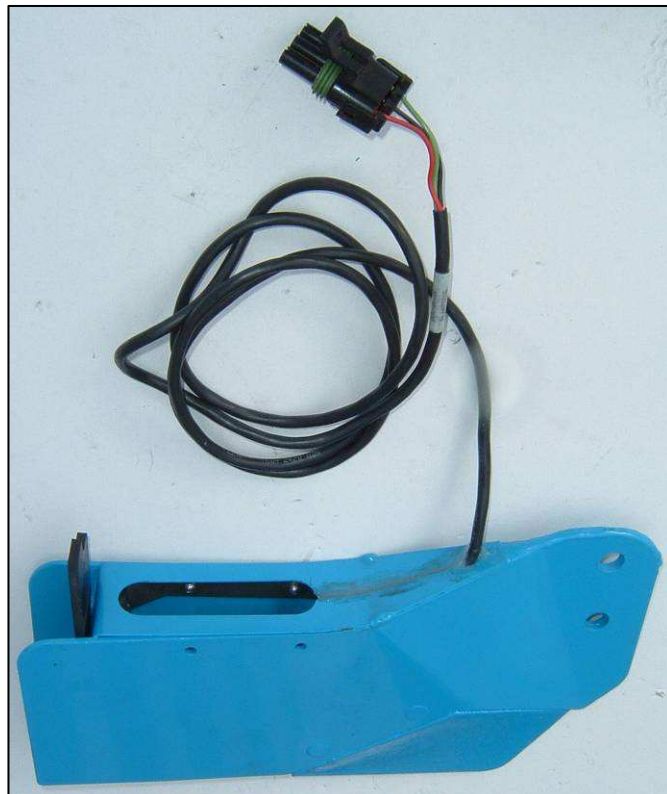

Fig. 2
d) Montage sur semoir MS (Fig.2)
d) Mounting on a MS seeder (Fig.2)